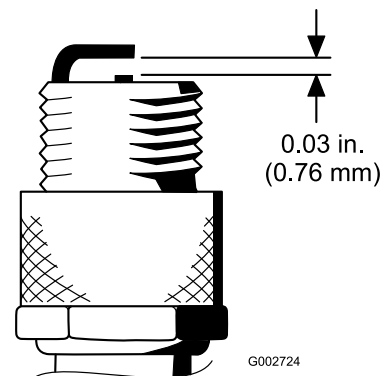

Figure 43
4. Set the air gap between the center and side of the electrodes at 0.76 mm (0.030 inch) (Figure 43).